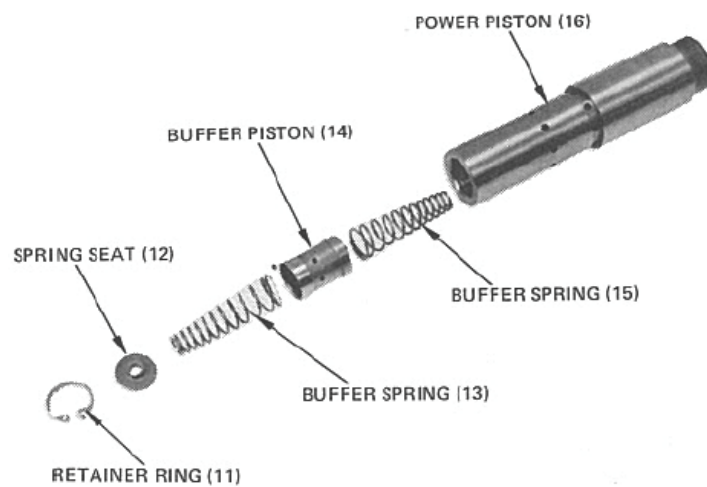

Figure 4-15. Assembly of Buffer System
9. Lift out the power-piston assembly (see Figures 4-15 & 4-16).